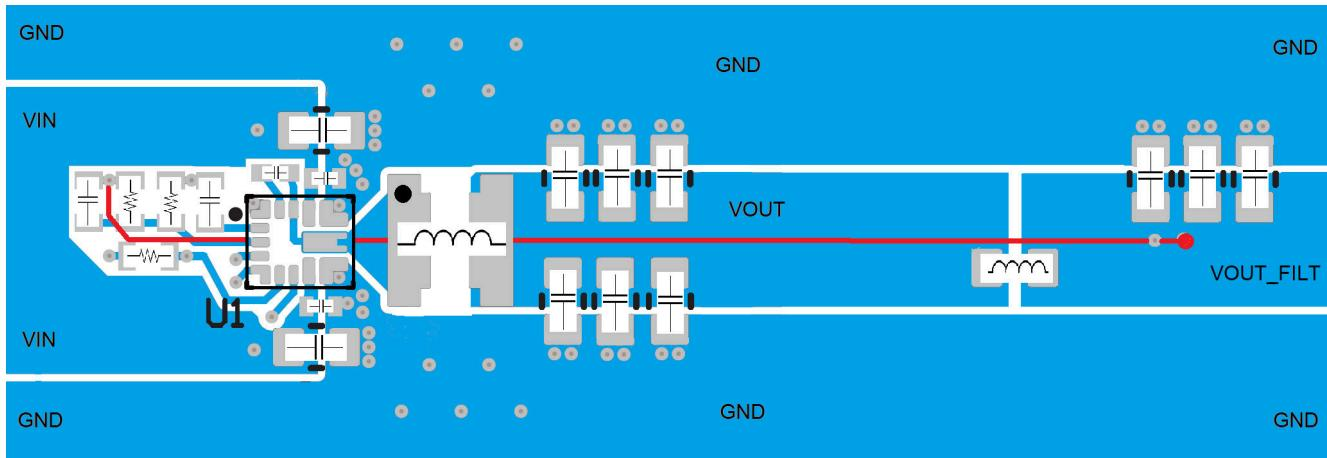

図 7-9. Recommended Layout for Design with Second L-C Filter
- Avoid placing the ferrite bead in the keep out region as shown in 図 7-9
- See the recommended layout implemented on the EVM and shown in the EVM user's guide, TPS62968 Step-Down Converter Evaluation Module User's Guide, as well as in 図 7-9.